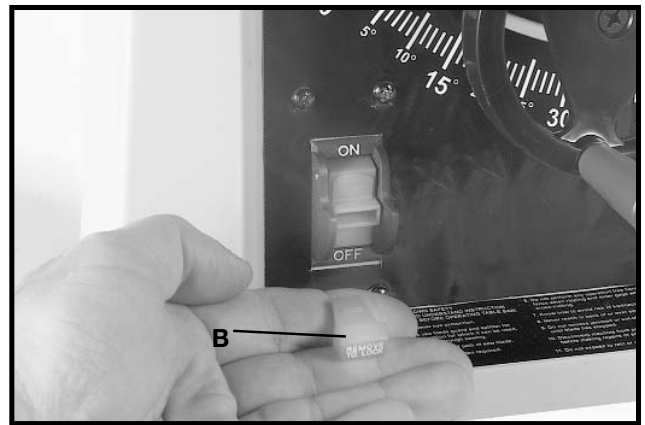

Fig. 28
IMPORTANT: When the tool is not in use, the switch should be locked in the “OFF” position to prevent unauthorized use. To lock the tool, grasp the switch toggle (B) and pull it out of the switch (Fig. 28). With the switch toggle (B) removed, the switch will not operate. However, should the switch toggle be removed while the saw is running, the machine can be turned “OFF,” but cannot be restarted without re-inserting the switch toggle (B).